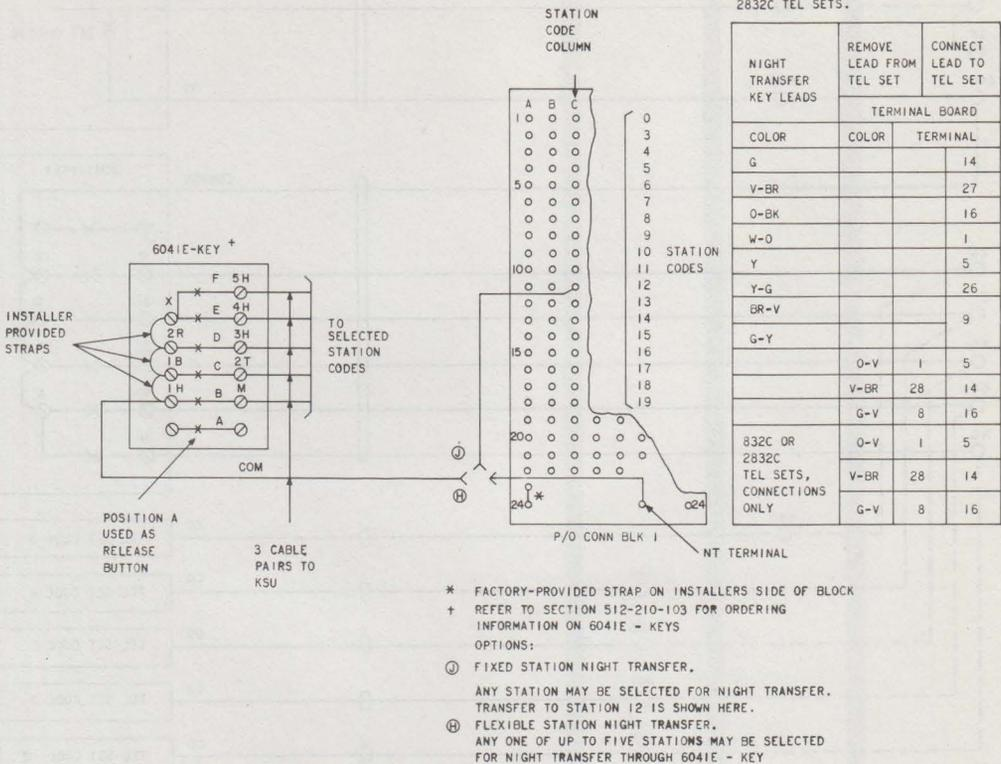

Fig. 35—Connections For Night Transfer
4.40 The attendant telephone set must be equipped with a night transfer button to control night transfer. Where the 832C or 2832C telephone set is installed as an attendant station, the factory-provided NITE button must be wired in. See Fig. 35 for connections. Where the 832A or 2832A telephone set is installed as an attendant station, a D-180487 kit of parts must be added to the telephone set as follows:
- (1) Remove faceplate.
- (2) Pry apparatus blank off locating pins (located below and to the right edge of key strip).
- (3) Press night transfer button (651C key) on locating pins.
- (4) Connect leads according to Fig. 35.
- (5) Install designation strip in key cap.
- (6) Replace faceplate.
4.41 For fixed station night transfer, in the KSU, run a strap from the NT terminal (column F, terminal 24) on connecting block 1 to the station code or station codes (column C, connecting block 1) selected for night transfer. For example, Fig. 35 shows station 12 wired for night transfer. When more than one station code is connected to the NT terminal, run a continuous strap to all stations (10 maximum) selected for night transfer.
- (1) Install a 6041E key at the attendant station.
- (2) Provide three cable pairs or six 24-gauge conductors between the 6041E key and the KSU.
- (3) Connect one conductor (common lead) to terminal 1H of the 6041E key and strap terminals 1H, 1B, 2R and X together (see Fig. 35 or 36).
- (4) Terminate the remaining five conductors on terminals M, 2T, 3H, and 5H of the 6041E key.
- (5) At the KSU, terminate one conductor (common lead) on the NT terminal (column F, terminal 24) of connecting block 1.
- (6) Terminate the remaining five conductors on the terminals of connecting block 1, column C, corresponding to the codes of the stations selected for night transfer (see Fig. 35).
- (7) Install designation strip on 6041E key. Designate the first button (position A) as RELEASE and label the remaining buttons according to the stations they connect for night transfer.